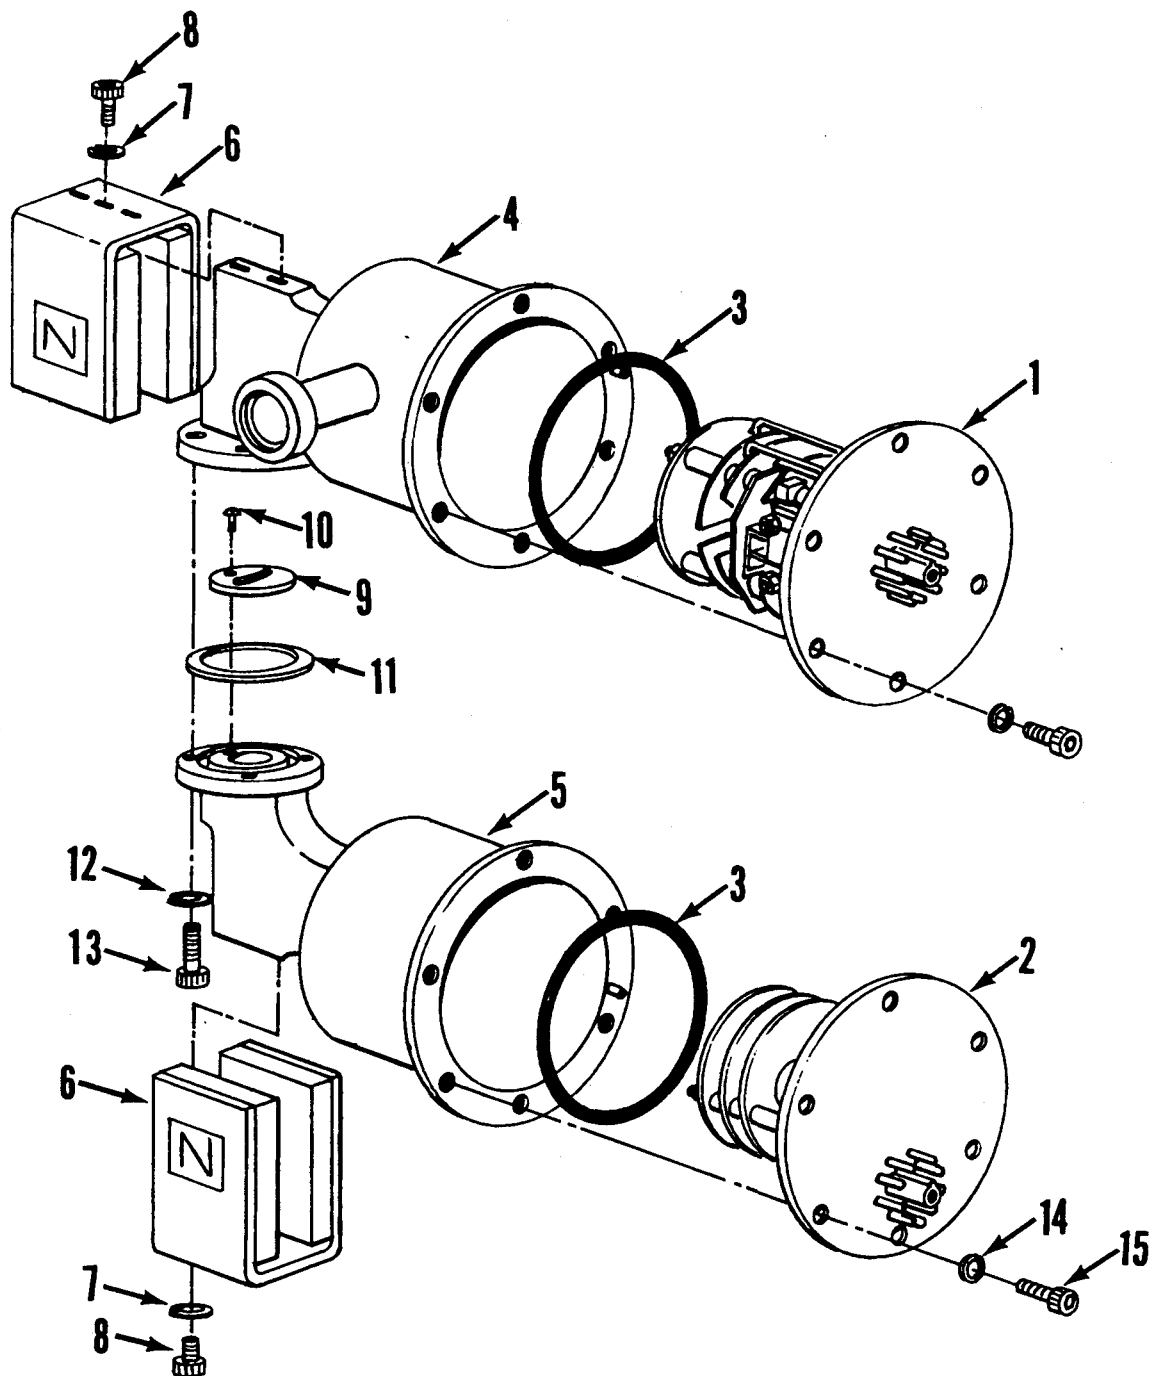

Figure 4-2
Refer to Figure 4-2 for an exploded view of the mass spectrometer.
**Parts List for the Spectron 600 Mass Spectrometer (as illustrated in Figure 4-2):**